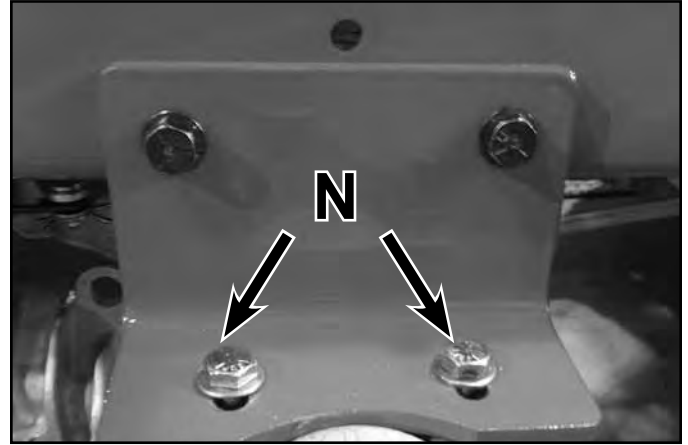

Fig. 080
5th - Torque fasteners (N) to specification – 30 ft-lbs. (40 Nm) (Fig. 080)